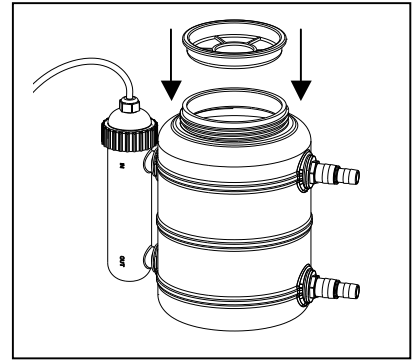

Fig. 8
8. Place the cover (with the o-ring attached) over the top of the tank. Fig. 8